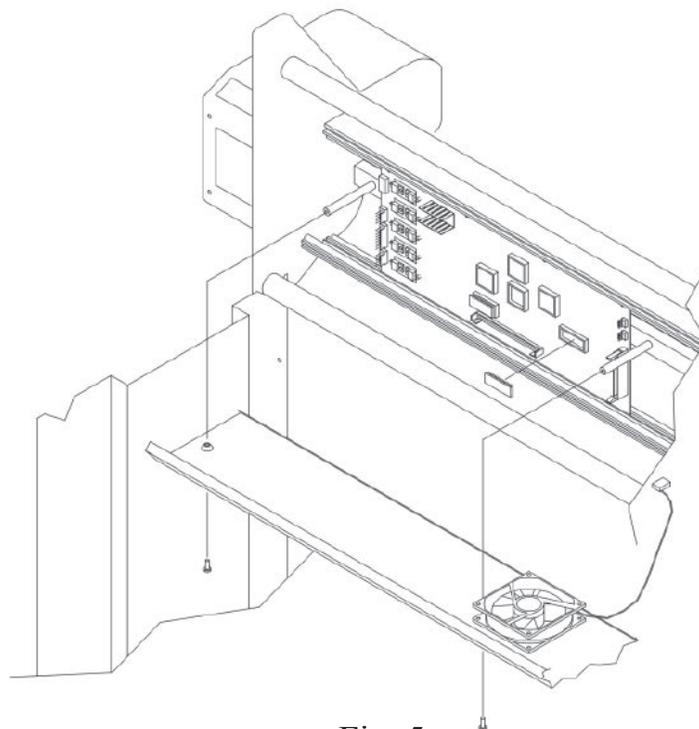

Fig. 5
3. Remove the six phillips screws that retain the bottom cover (including the ones in the center of the covers). See Fig. 5